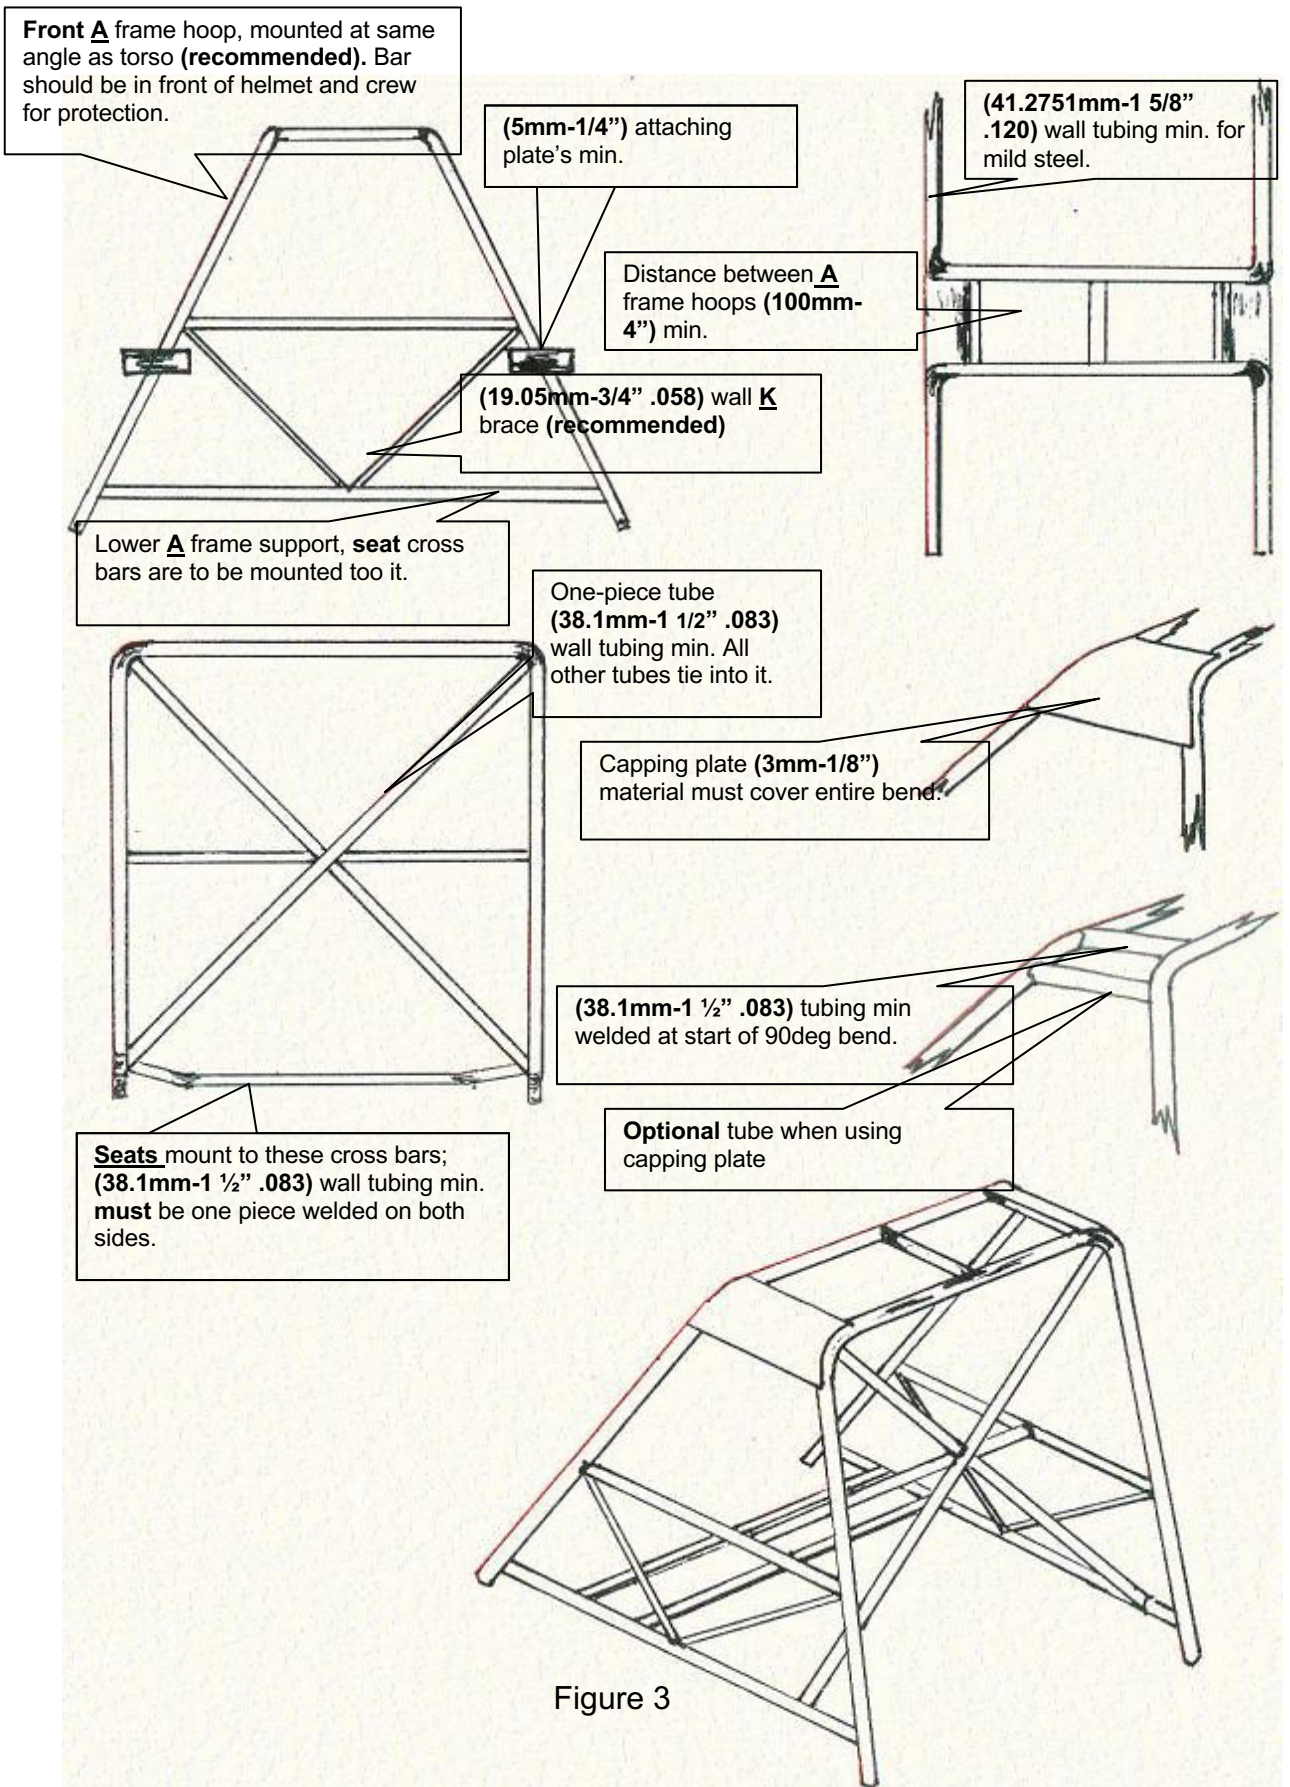

Figure 3
- 7.4.13. Seats must mount to the one piece cross bars attached securely to the roll cage, shown in Figure 3 and must be attached at all manufacturers located mounting points. A minimum 4 points at the base and one at the back above the shoulder line of any crew is required.